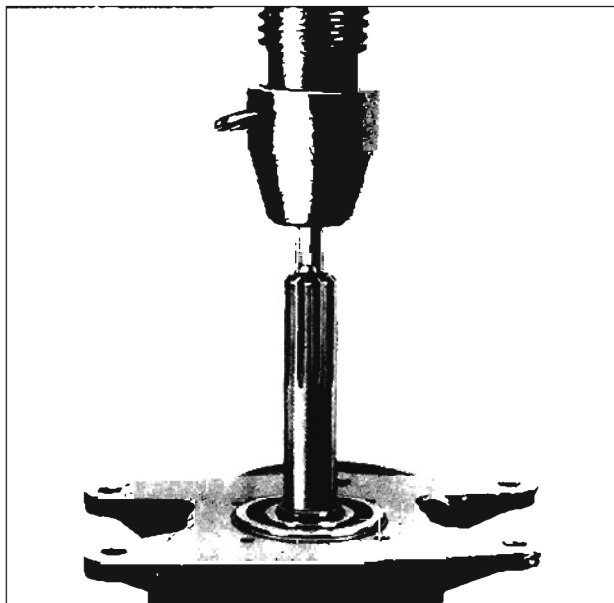

Fig. 7-117 Removing Clutch Gear from Bearing
3. Support rear of case in arbor press as shown in Fig. 7-117 and press shaft from bearing. Tap bearing from case.